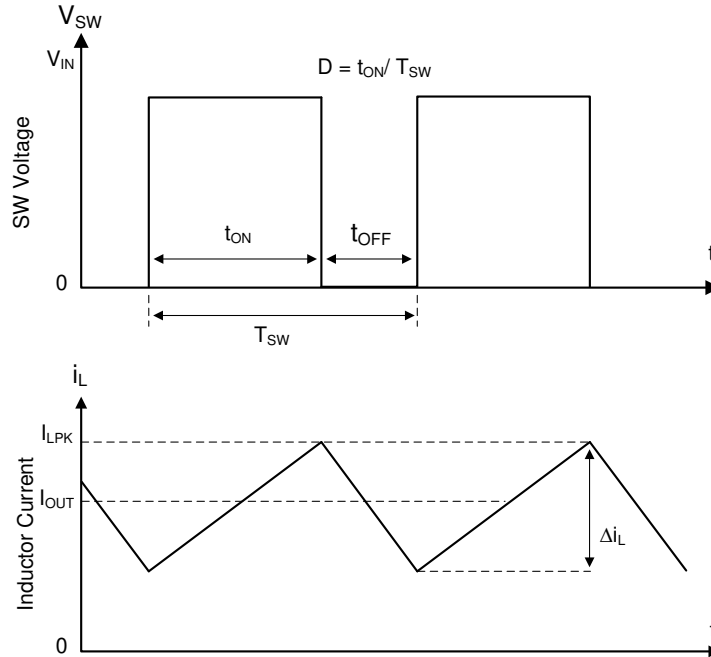

图 8-1. SW Node and Inductor Current Waveforms in Continuous Conduction Mode (CCM)
The following operating description of the LMR51430 refers to 节 8.2 and to the waveforms in 图 8-1. The LMR51430 is a step-down synchronous buck converter with integrated high-side (HS) and low-side (LS) switches (synchronous rectifier). The LMR51430 supplies a regulated output voltage by turning on the high-side and low-side NMOS switches with controlled duty cycle. During the high-side switch on time, the SW pin voltage swings up to approximately V_{IN} , and the inductor current, i_L , increases with a linear slope of $(V_{IN} - V_{OUT}) / L$. When the high-side switch is turned off by the control logic, the low-side switch is turned on after an anti-shoot-through dead time. Inductor current discharges through the low-side switch with a slope of $-V_{OUT} / L$. The control parameter of a buck converter is defined as: